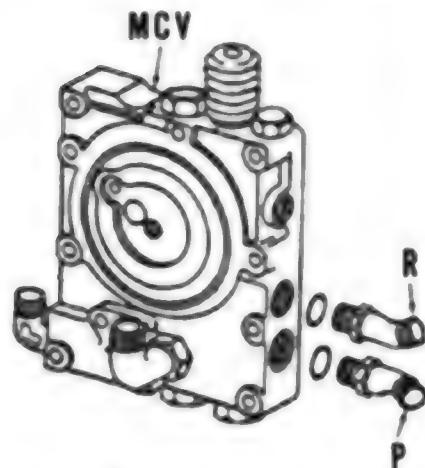

Fig. 171 - View showing pressure and return ports from MCV to the hydraulic lift.
132. **RELIEF VALVE.** To check the hydraulic lift system relief valve, disconnect the pressure line (P—Fig. 171) and return line (R). Attach the Flo-Rater inlet hose to (P) and the outlet hose to (R). Start and run the engine at 2300 rpm on Model 684 or 2400 rpm on Models 784, 884 and Hydro 84. Restrict the Flo-Rater to 1250 psi and the pump should deliver 12.5 gpm on Model 684 or 13 gpm on Models 784, 884 and Hydro 84. Continue to restrict the Flo-Rater to 1500-1600 psi. Flow should drop approximately 2½ gpm at this point. Then, restrict the Flo-Rater to 2300 to 2500 psi. There should be no flow at this pressure. If pressure is not as stated, renew relief valve which is available only as a unit.